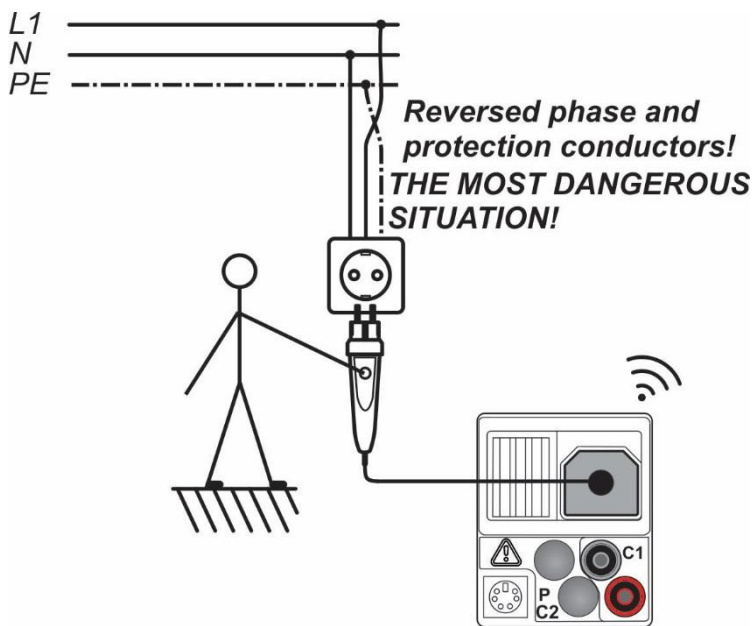
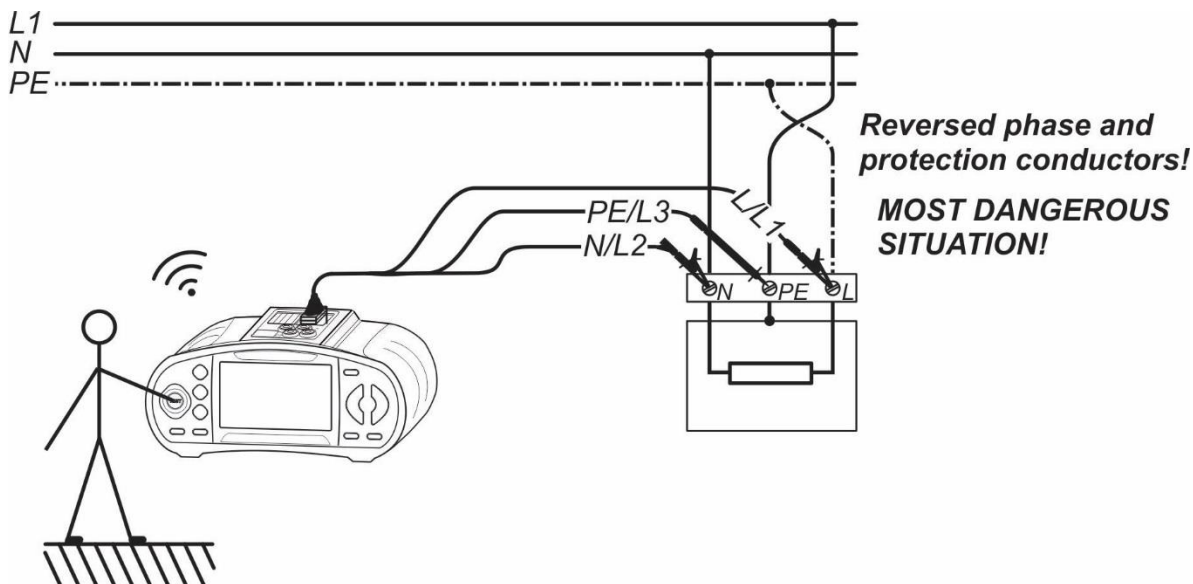

Figure 5.43: Reversed L and PE conductors (plug commander)
Figure 5.44: Reversed L and PE conductors (application of 3-wire test lead)
- ❑ **Connect** test leads to the item to be tested ( see *Figure 5.43* and *Figure 5.44*).